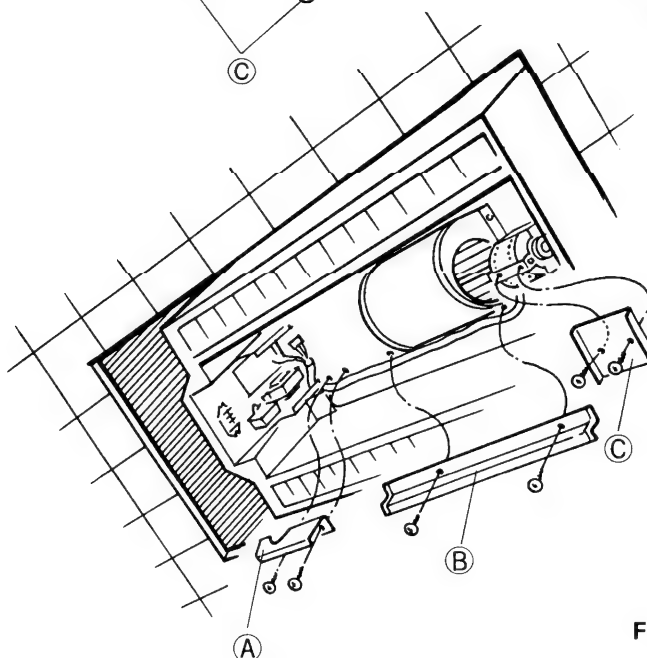

Fig. 6
- ① Remove the cover (A), (B), and (C). Fig. 6